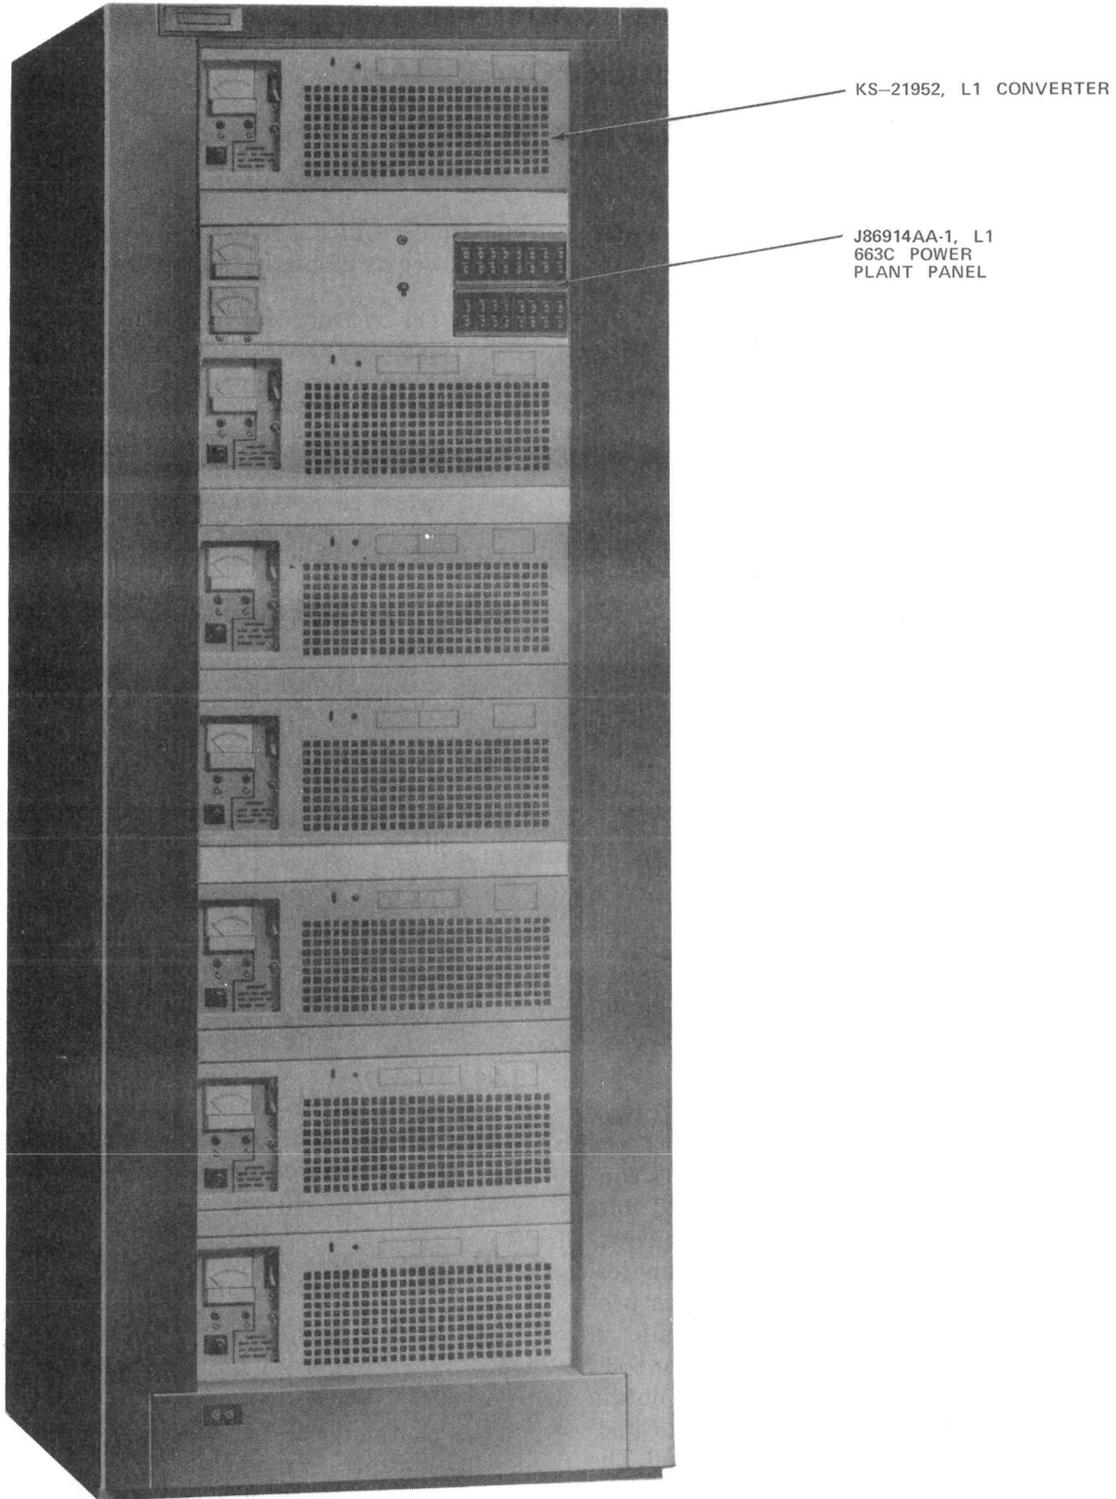

Fig. 1—663C Converter Power Plant
1.01 This section describes the operation of the 663C power plant (Fig. 1) which provides conversion from -48 volts dc to plus or minus 130 volts dc. The plant employs pulse width controlled converters, each having an output rating of 5.0 amperes. ♦From two up to seven converters, one converter provided for redundancy, may be operated in parallel in a single polarity plant configuration. Two 663C plants may be mounted in the same bay to obtain both positive and negative 130 volts output. Each polarity would have its own J86914AA plant panel. The smallest plant would consist of one plant panel and two converters. ♦The plant is intended for use in ap-